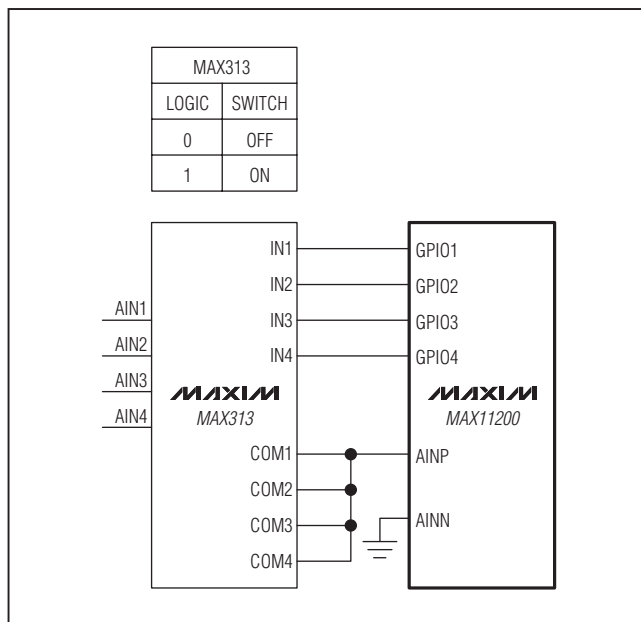

Figure 3. MAX11200 GPIOs Drive an External 4-Channel Switch (MAX313)
The devices provide four GPIO ports. When set as outputs, these digital I/Os can be used to drive the digital inputs to a multiplexer or multichannel switch. Figure 3 details an example where four single-ended signals are multiplexed in a break-before-make switching sequence, using the MAX313, a quad SPST analog switch.
**Table 4a. Data Command to Select Channel AIN1 in Figure 3**
**Table 4b. Data Command to Set All Channels High Impedance in Figure 3**
Table 4c. Data Command to Select Channel AIN3 in Figure 3